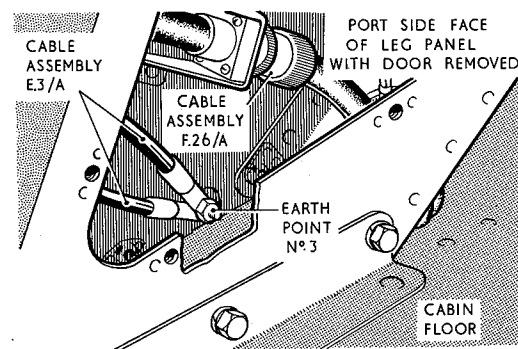

Fig.6 Earth point number 3
- (1) Render the aircraft electrically safe, as described in Group A.1.
- (2) Disconnect the Bowden cable from the rudder bar release lever at the top of the leg panel and stow it away from the panel.
- (3) Disconnect cable assembly E3/A from earth point number 3, obtaining access via the door in the port side of the leg panel (*fig.6*).
- (4) Disconnect cable assemblies F.5, F.6, F.26A and F.64 from the leg panel. Seal off the plugs and sockets with approved caps and covers and stow assemblies away from the panel.
- (5) Release the leg panel from the mountings by removing the bolts from around the bottom forward and side faces of the panel. Remove the leg panel from the cabin, complete with cable assembly E3/A.